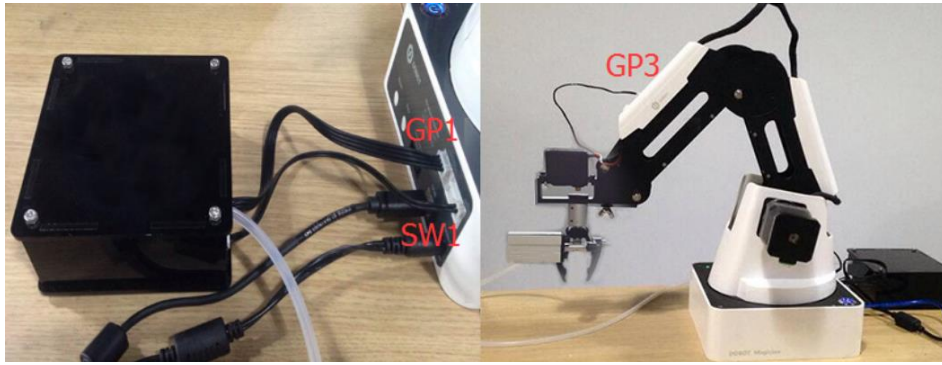

Figure 5.11 The effect of the gripper kit installation
- Step 3** Connect the gripper kit and an air pump to the Dobot Magician in the same way as the suction cup kit is installed. For details, see 5.2.1 *Installing a Suction Cup Kit*. Figure 5.11 shows the effect of the gripper kit installation.